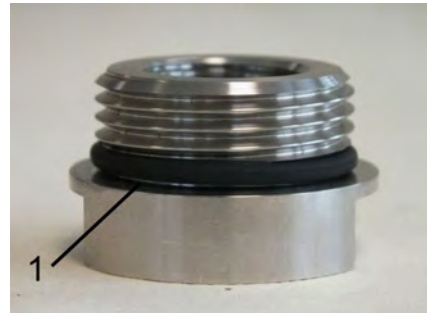

Fig. 51: Properly positioned O-ring
- Carefully install the O-rings (Fig. 50/2) with the aid of the O-ring installation tool (Fig. 50/1) onto the process connections (inlet and outlet), so that they are properly seated in the O-ring grooves of the process connection (Fig. 51/1). When doing so, be careful not to overstretch the O-rings.
- Position the O-ring properly on the process connection (Fig. 51/1).